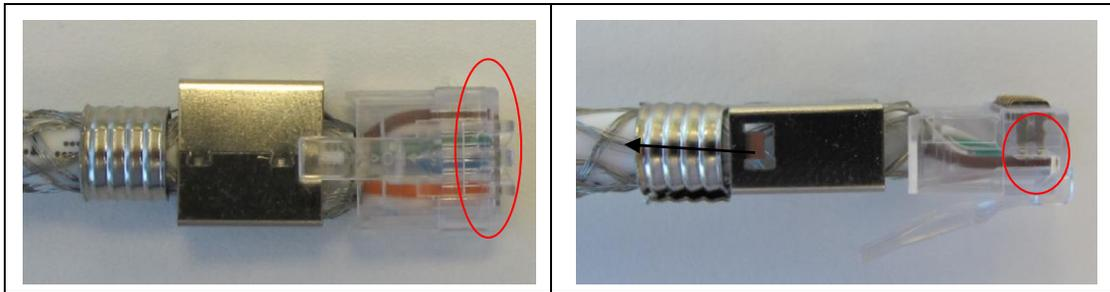

Figure 11. Verify Conductors are Fully Inserted
8. Visually verify that all conductors are fully inserted into the housing with the ends of the conductors seated against the end of the housing cavity. If not, push the cable into the wire holder and check if the wire holder has latched into both sides of the plug housing. See Figure 11.